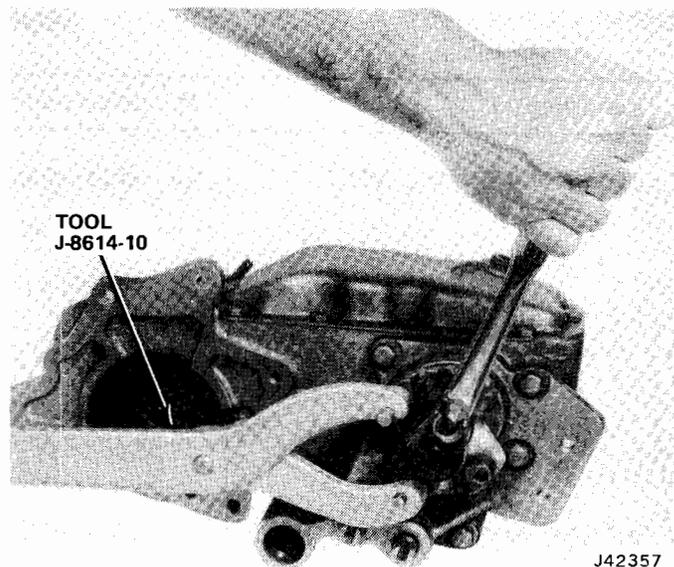

Fig. 8-8 Removing Front Output Shaft Nut
- (1) Disconnect front propeller shaft from yoke.
- (2) Remove front propeller shaft nut and washer using Tool J-8614-10 (fig. 8-8).
- (1) Remove speedometer driven gear sleeve and driven gear from bearing cap.
- (2) Mount bearing cap assembly in vise.
- (3) Using Yoke Holding Wrench J-8614-10, remove yoke nut (fig. 8-8).